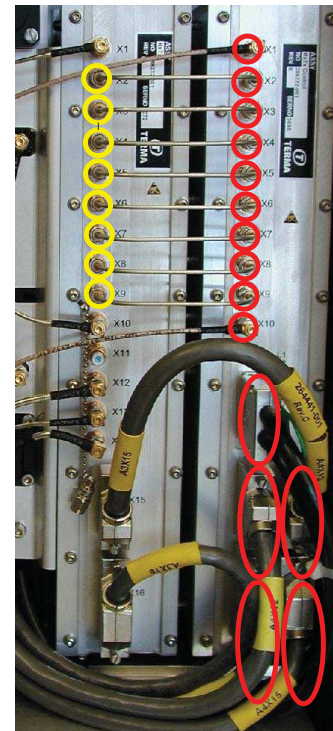

Fig. 7.26 Connectors
- 3 On RxTx Control, loosen all SMA connectors (X1 - X10) using tools 13/14, four D-Sub connectors (X12, X13, X14, X15) using tool 11 and one PCIe connector (X11) as indicated on the RxTx Control module with red circles and ellipses - see Fig. 7.26 (p. 132).
- 4 On the RxTx to the left of the RxTx Control, loosen SMA connectors X2 - X9 to remove or turn the semi-rigid cables so the RxTx Control can be pulled out without any obstructions - use tools 13/14. Indicated with yellow circles in Fig. 7.26 (p. 132).